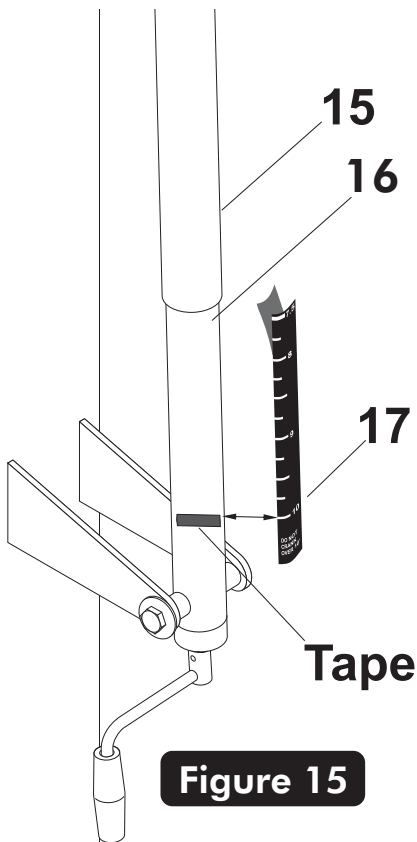

Figure 15
25. Remove the adhesive backing from the Height Decal (#17). Next, carefully align and stick decal to backside of steel actuator (#16) starting at the **10 ft mark first**. Be sure to keep the height decal straight and rub out all air bubbles. See **Figure 15**.